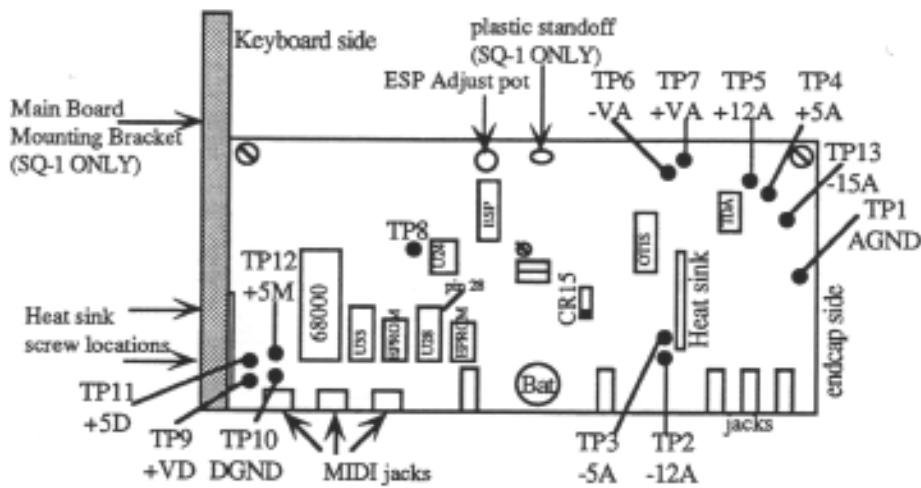

Figure 6 – Main Board Test Point Locations
- Short the minus side of the battery (center of the Main Board) to pin 28 of U28 for a few seconds (see Figure 6 for location).
(TP=test point, see Figure 6 for location; DGND=digital ground; AGND=analog ground)
(The test points are labelled on the main board silkscreen, see Figure 6)